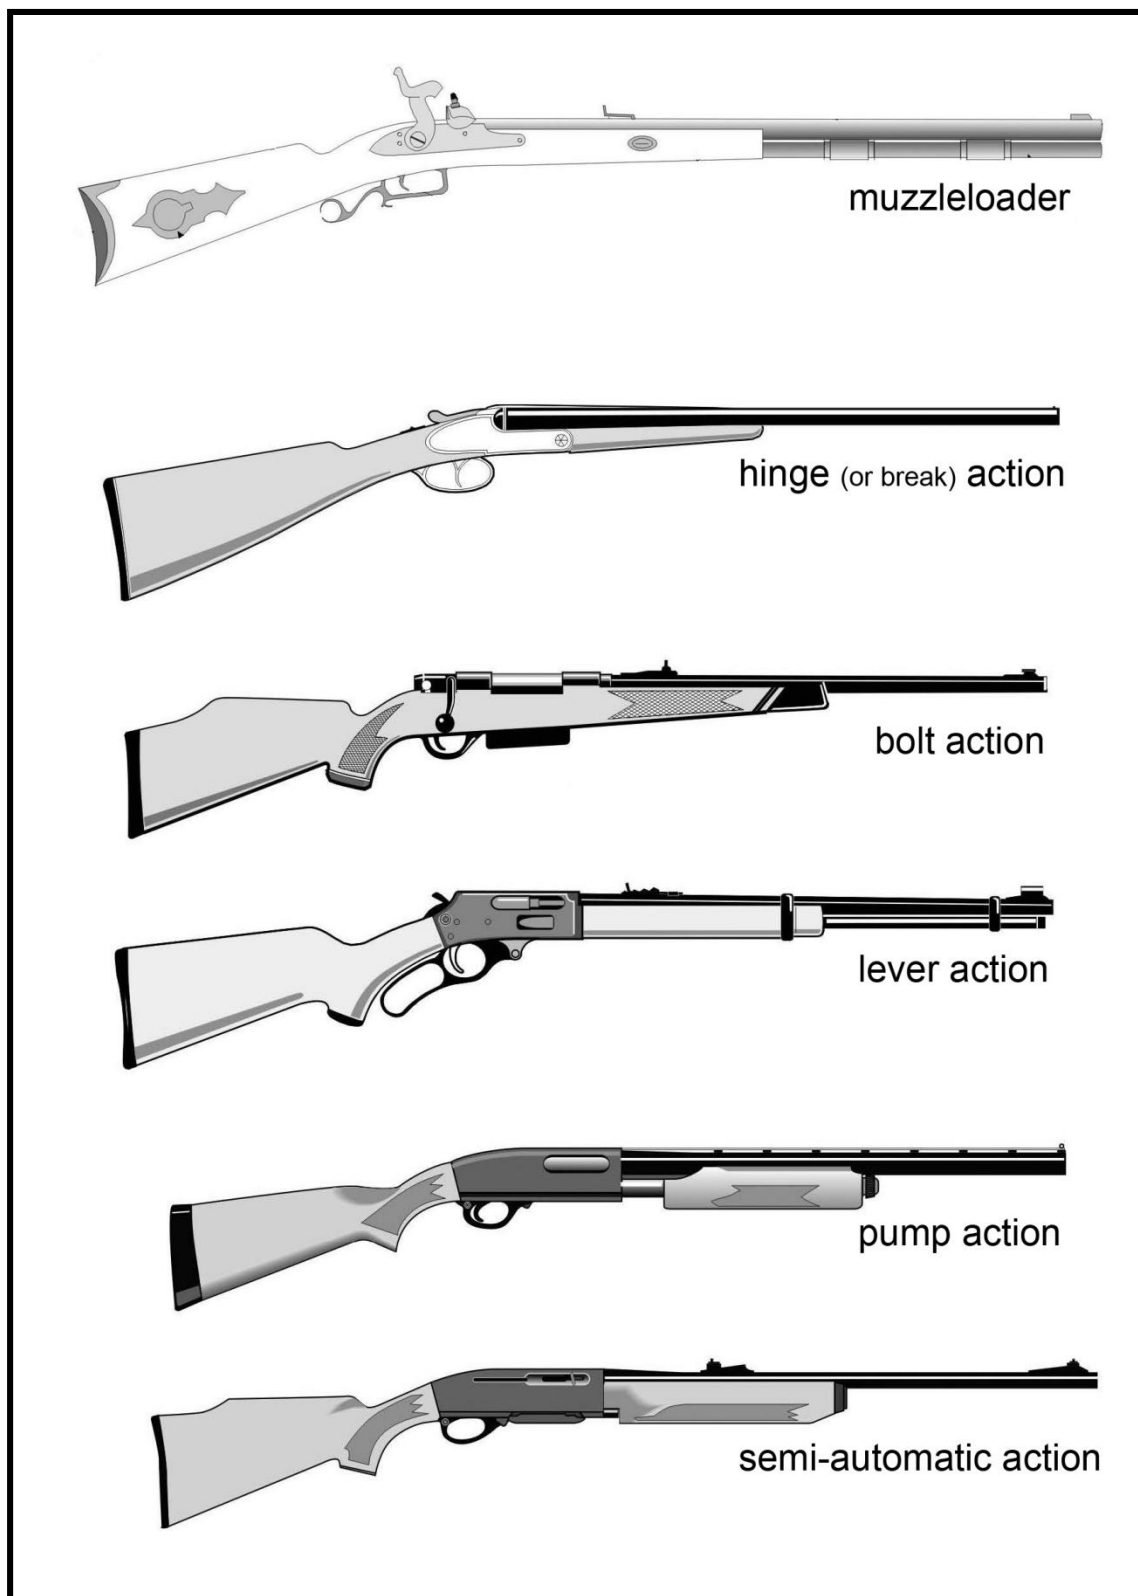

Figure 15. Action Types
- c. The basic types of modern actions (Figure 15) used in these firearms are as follows: